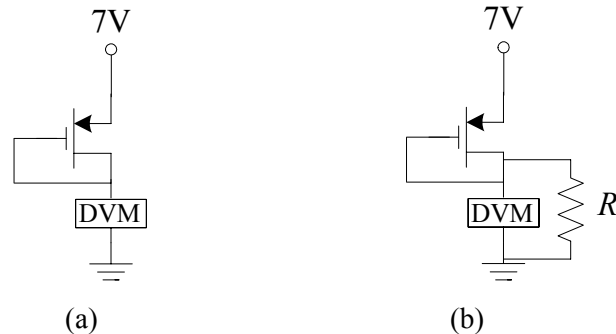

Fig. 2 A simple technique to measure the internal parameters of a p-channel MOSFET: (a) measuring  $V_{th}$ , (b) measuring  $K$ .
A similar procedure can be used for p-channel MOSFETs. Fig. 2 shows the corresponding circuits. Explain the procedures to measure  $V_{th}$  and  $K$  for a P-MOSFET.
■ CD4007UB types are comprised of three n-channel and three p-channel enhancement-type MOS transistors. The transistor elements are accessible through the package terminals to provide a convenient means for constructing the various typical circuits as shown in Fig. 2.